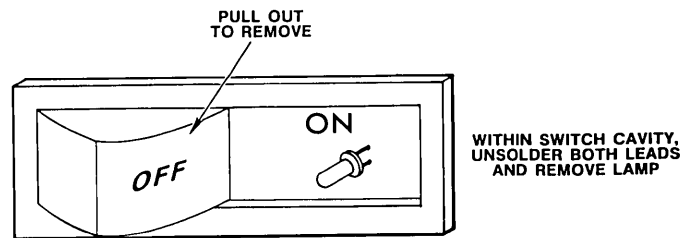

Figure 4-19. AC Power Switch Lamp Location
3. Remove the plastic cover, see Figure 4-19.